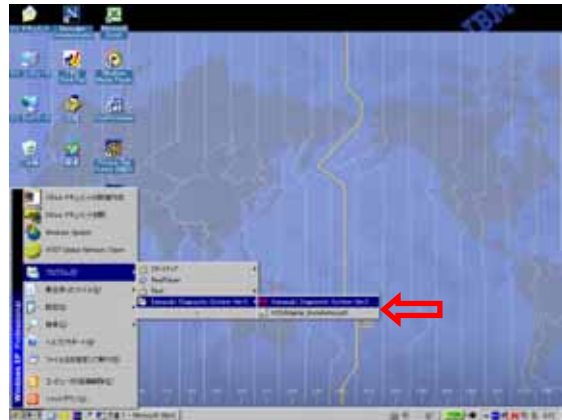

Fig. 5-1 Start Screen
- Start the *Kawasaki Diagnostic System Ver. 3* from the start menu. Fig. 5-1